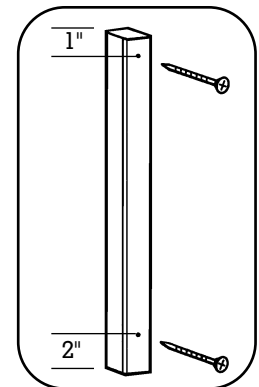

Fig. 41
- Mark on center 1" from the top and 2" from the bottom of each TimberTech Baluster for screw placement. **The screws must be installed 1" from the top and 2" from the bottom of each Baluster to ensure proper placement into the top and bottom Side Rail (Fig. 41).**